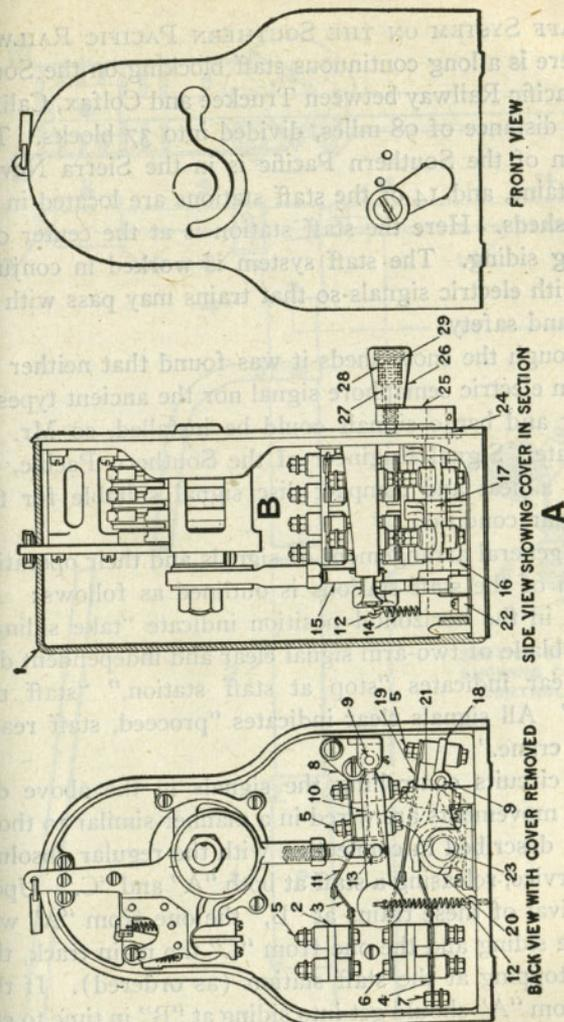

FIG. 131. CIRCUIT CONTROLLER ATTACHMENT.
**CIRCUIT CONTROLLER ATTACHMENT.**—Another attachment called the circuit controller attachment (see Figure 131) is used where electric signals are operated in place of mechanical. This attachment is arranged to control the staff and signal circuits. The signal circuits controlling the signals for a through movement cannot be closed until the staff has been used to release same, which staff can be taken out when said release is made.